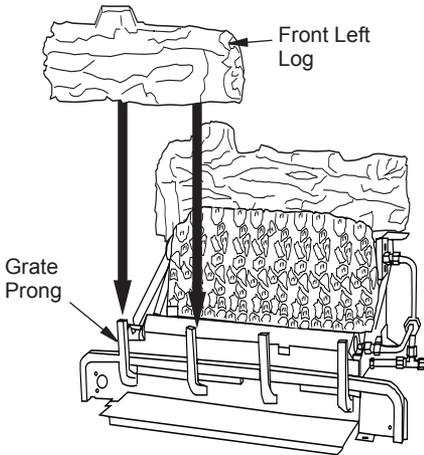

Figure 31 - Installing Front Left Log
- Position front left log against left side of grate prongs (see Figure 31, page 21).